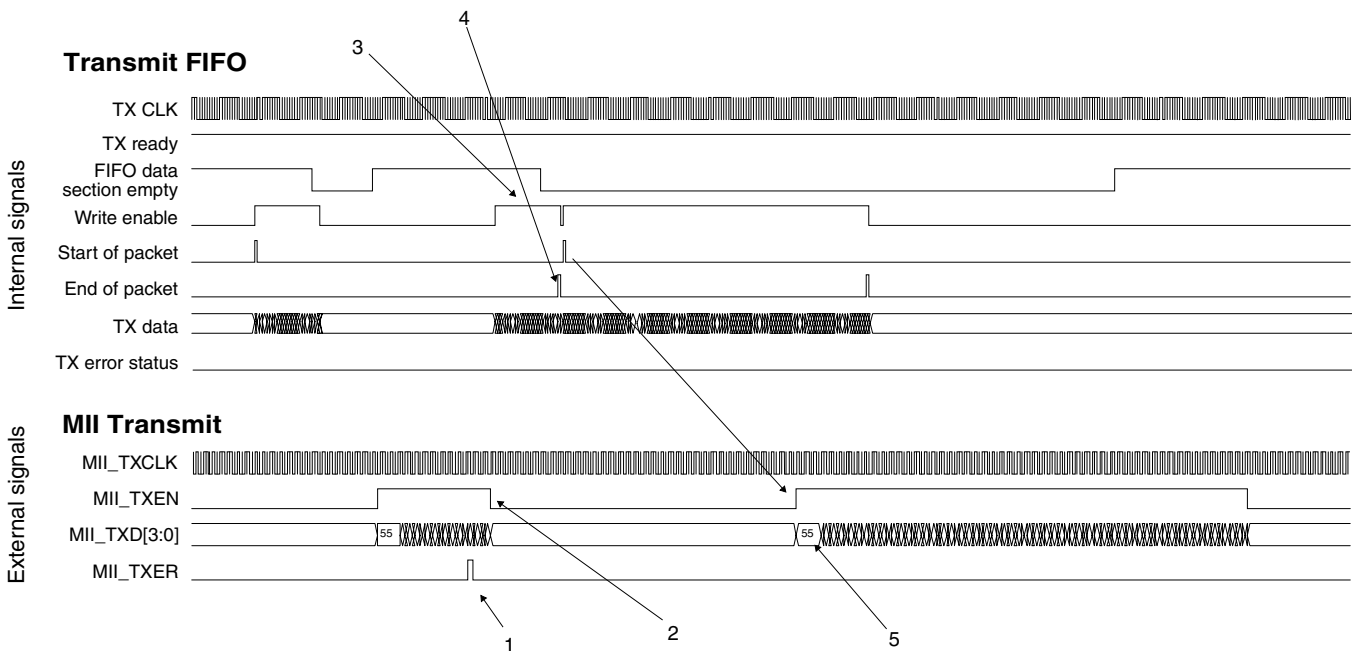

Figure 51-16. Transmit FIFO underflow protection
- Asserts the MII error signal (MII_TXER) (1 in Figure 51-16) to indicate that the fragment already transferred is not valid
- Deasserts the MII transmit enable signal (MII_TXEN) to terminate the frame transfer (2)